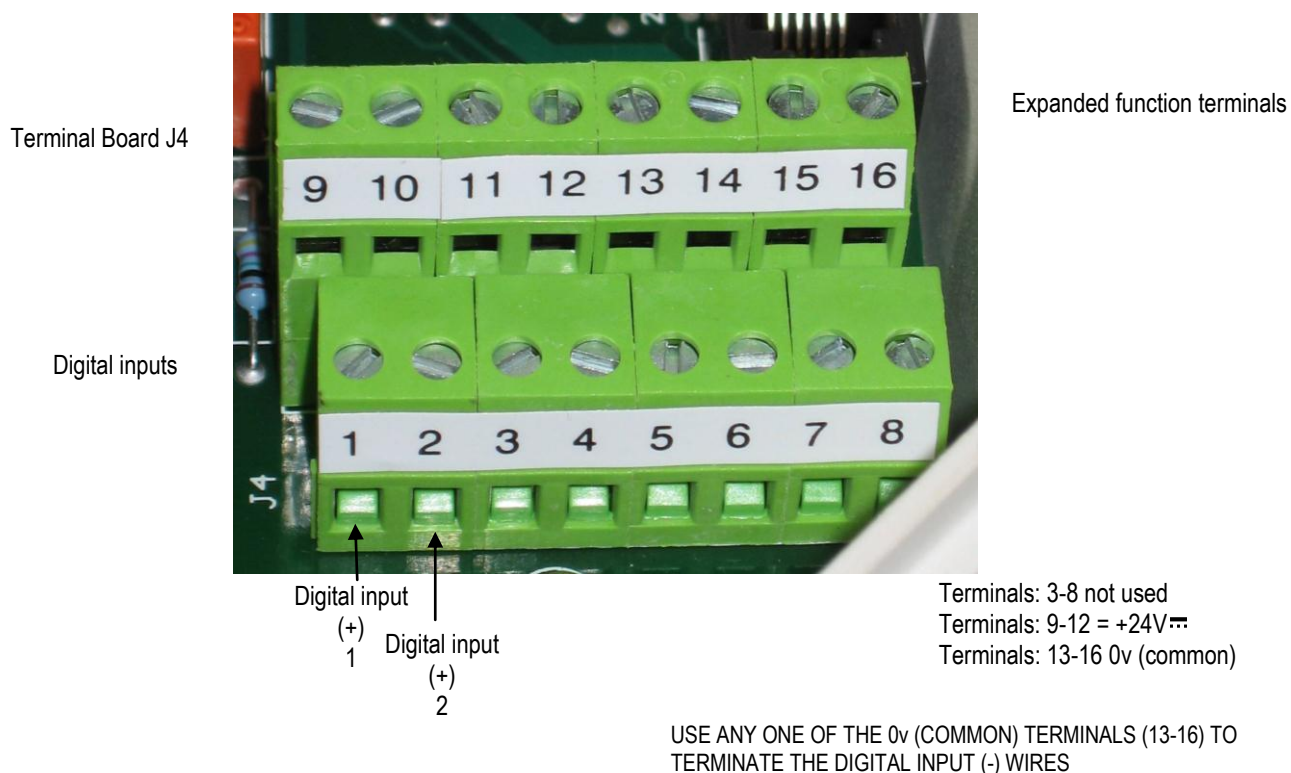

Figure 7 - Digital inputs terminal barrier
AW400 digital input (free contacts) are represented in Figure 7.
- the shields has to be connected to ground shield terminal strip (⊕) on the AW400 power supply board (see Fig. 7).